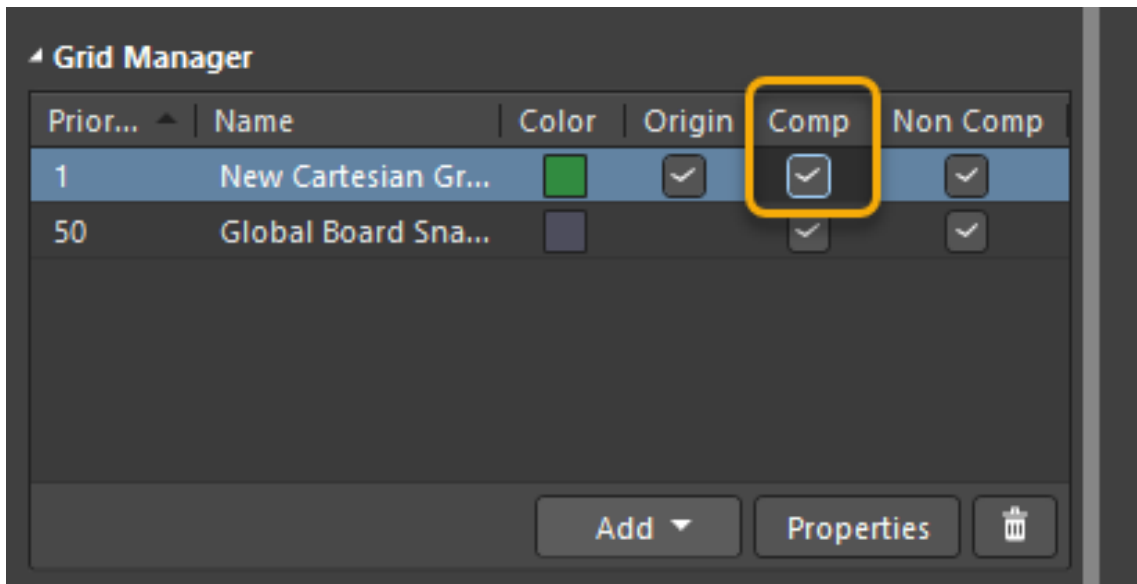

Figure 8. Enabling the *Comp* checkbox to be able to place components on the new grid
26. Open the *Properties* panel and enable the **Comp** checkbox for the `New Cartesian Grid` as highlighted in Figure 8. This will allow us to place components on that grid.